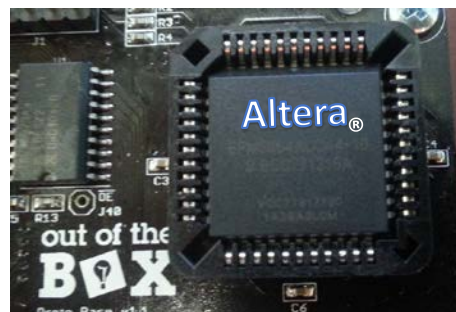

Figure 7: Placement of CPLD.
1. If you have not already done so, insert the CPLD into its designated socket (U2). Be careful to insert it properly, i.e., so the text should be oriented aligned as shown in Figure 7. Test that you can program the CPLD without problems.